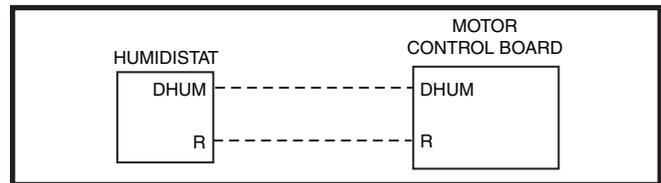

Figure 27. DHUM Wiring Configuration
1. If the room thermostat incorporates a humidity sensor and **DHUM** output, connect the **DHUM** on the thermostat to the **DHUM** terminal on the motor control board (Figure 27).